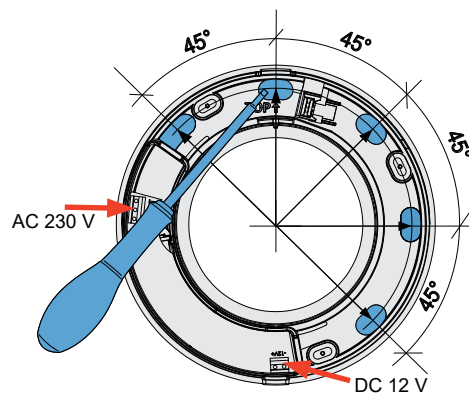

Abbildung 12: Cable entry options
- 👁️ For options for positioning the cable bushing, see Figure 12. The cable bushing should be located near the respective connection terminal.